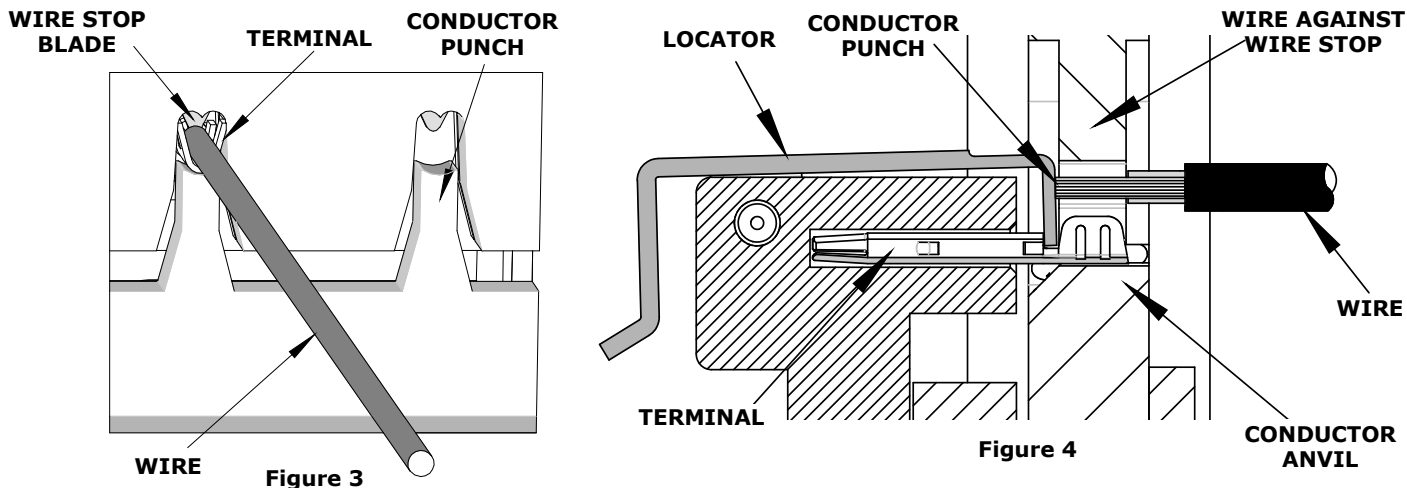

Figure 4
6. Push the wire until it stops. See Figure 4.